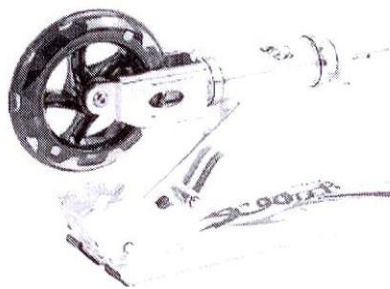
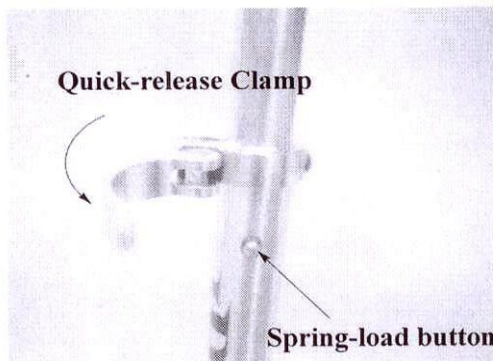

Figure 3
Figure 4
- B. To release the folding mechanism, grasp the T-tube with one hand between the collar clamp and the quick-release clamp and, with the other hand, pull up the latch (Figure 3) to release latch is spring-loaded and will automatically lock in the upright position when fully upright (Figure 4).